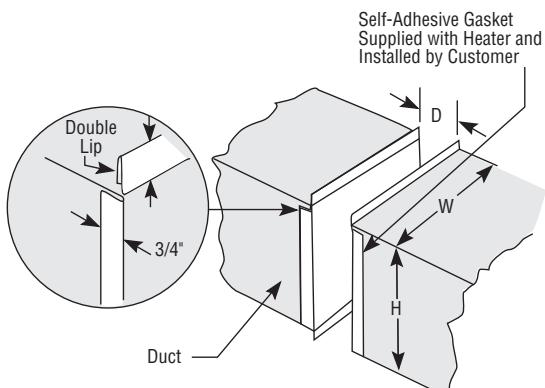

Figure 19
2. Form mounting flanges on cut edges of duct as shown in Figure 19.
2. Increase D-1½" slot to "D" by forming a ¾" double lip on each side of the duct. (See Figure 19).